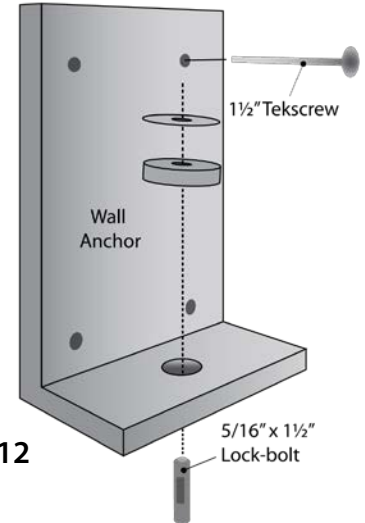

Figure 12
- G. For a Walk-In requiring anchors on the outside of the walls, begin by centering anchors WA-3 to vertical panel joints and WA-4 to corners. See Figure 12.